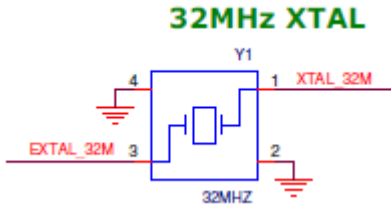

Figure 6. FRDM-KW36 32 MHz reference oscillator circuit
- Figure 6 shows the 32 MHz external crystal Y1. The Bluetooth LE specification requires the frequency to be accurate less than ± 50 ppm. The FRDM-KW36 is equipped with a ± 10 ppm oscillator.